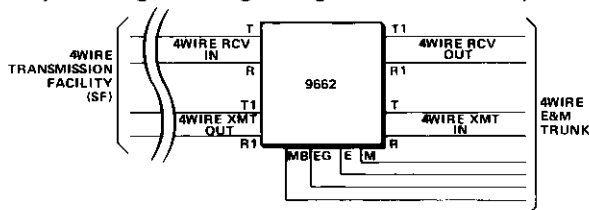

figure 2. 9662 terminal application
2.01 The main application of the 9662 4Wire E&M SF Signaling Set module with Gain is as a stand-alone module used to interface a 4wire E&M trunk circuit in a variety of E&M SF signaling applications (e.g., toll and tie line). Figure 2 shows a typical application of this type. The 9662 provides full-duplex signaling conversion between the transmission facility and an E&M trunk circuit associated with a two-way dial/supervisory telephone circuit. When used in this application, the 9662 mounts in a Western Electric MTM-1 or MTM-2 MFT mounting shelf. Another application of the 9662 is in an intermediate location requiring an associated DX signaling set. In this application, the 9662 interfaces a 4wire metallic facility (using DX signaling) on its terminal side with a 4wire metallic or carrier facility (using SF signaling) on its facility side.